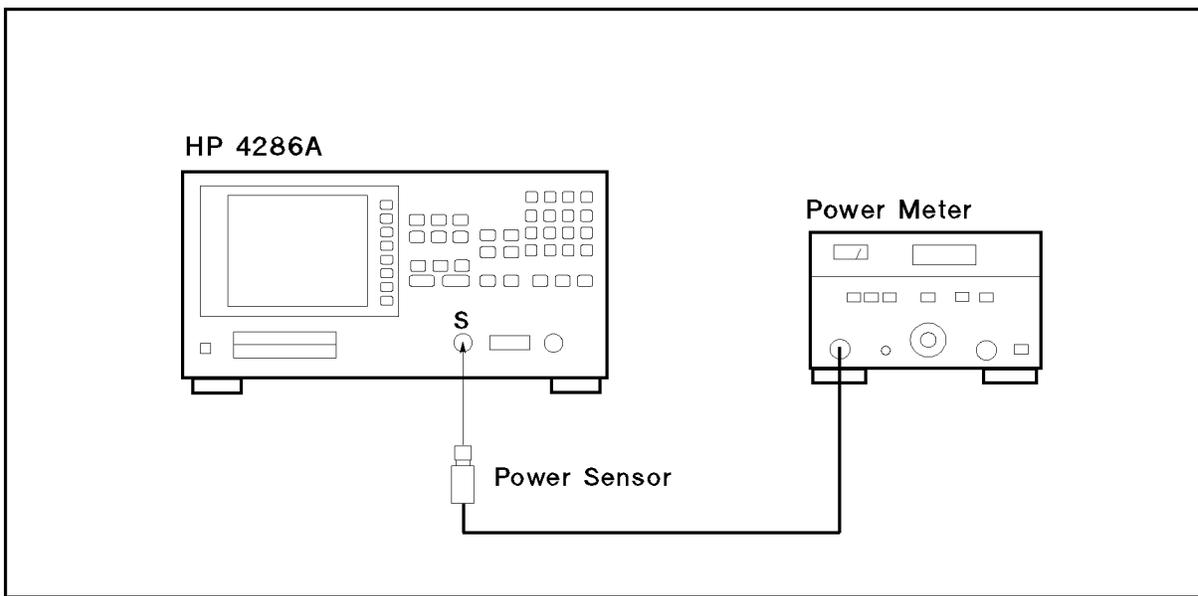

Figure 7-19. A3A3 RF Signal Test Setup
- b. Connect the equipment as shown in Figure 7-19.
The A7 Output Attenuator is controlled by the three lines at A7J1, A7J2, and A7J3 as shown in Figure 7-19. Perform the following steps to verify the A7 control signals: